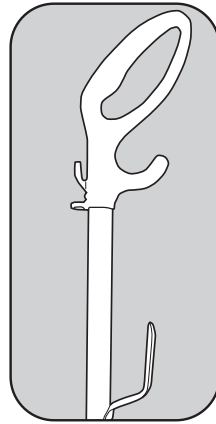

Fig. 1
1. Remove the handle screw, insert handle into the hole on top of the vacuum cleaner (Fig. 1).